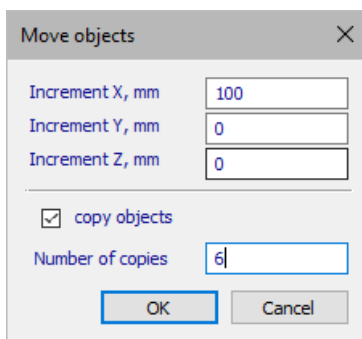

Figure 26.6. **Move objects** dialog box
- ⇒ In the **Move objects** dialog box (see Fig. 26.6), define the following data: